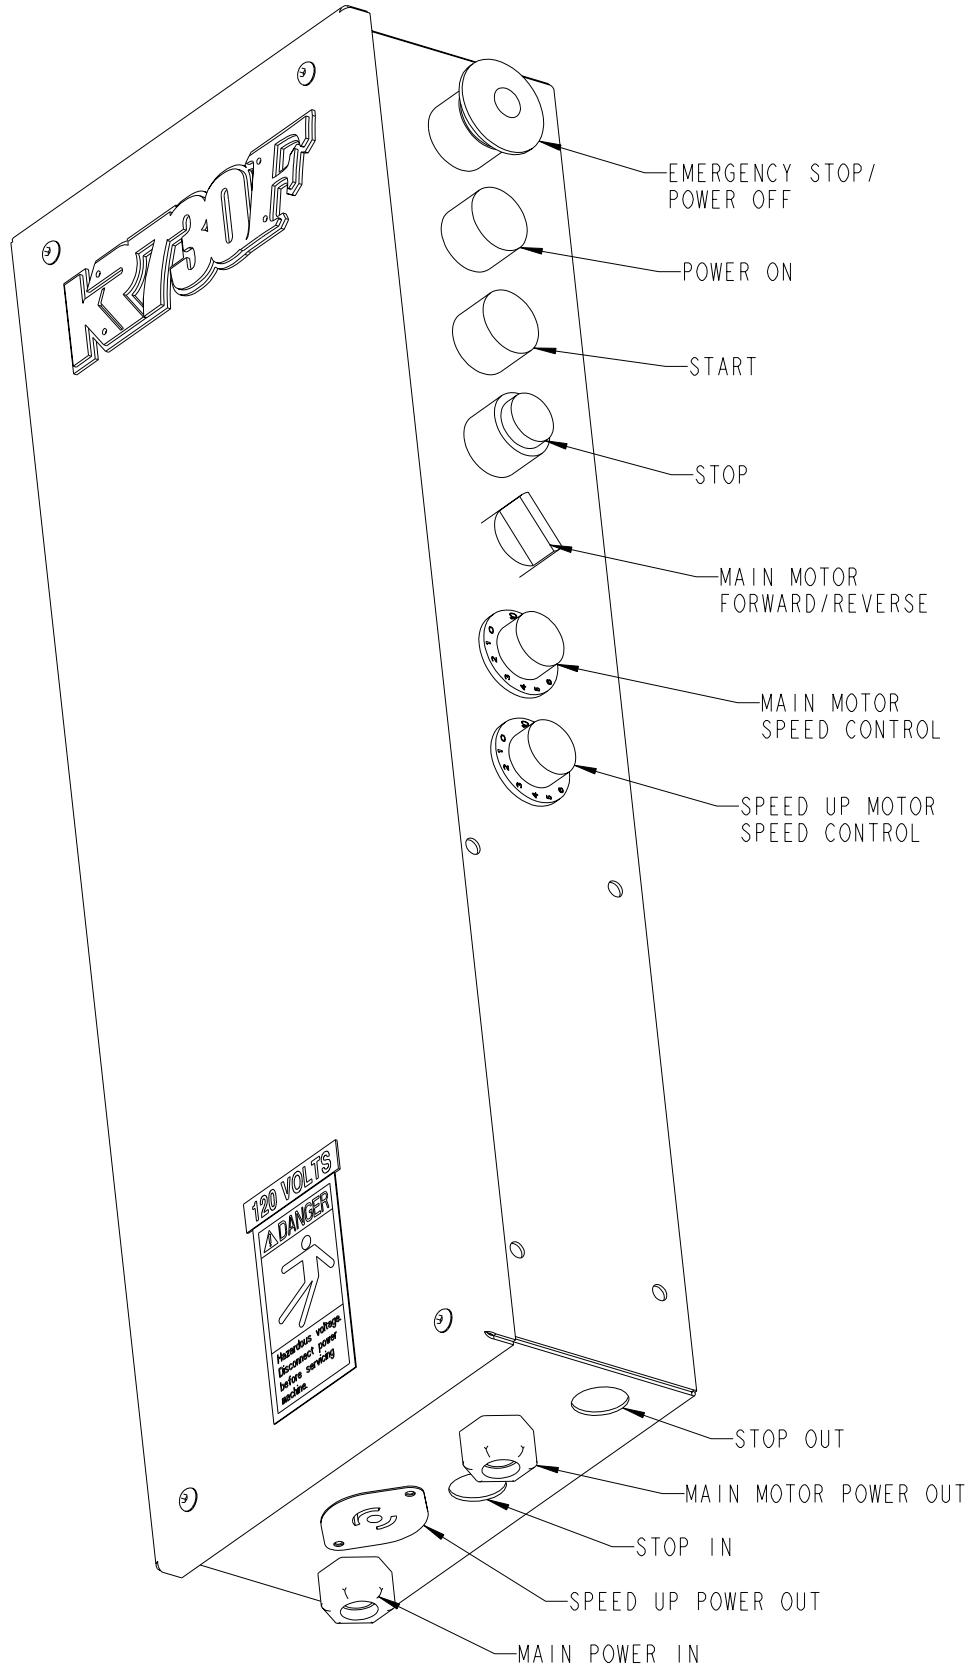

FIGURE 3.0
1. **Control Panel/Electrical Box:** Houses all of the electrical controls and components. (See **Figure 3.0** for further illustration)
4.1.2 Electrical Box Component Description (See Figure 3.0)